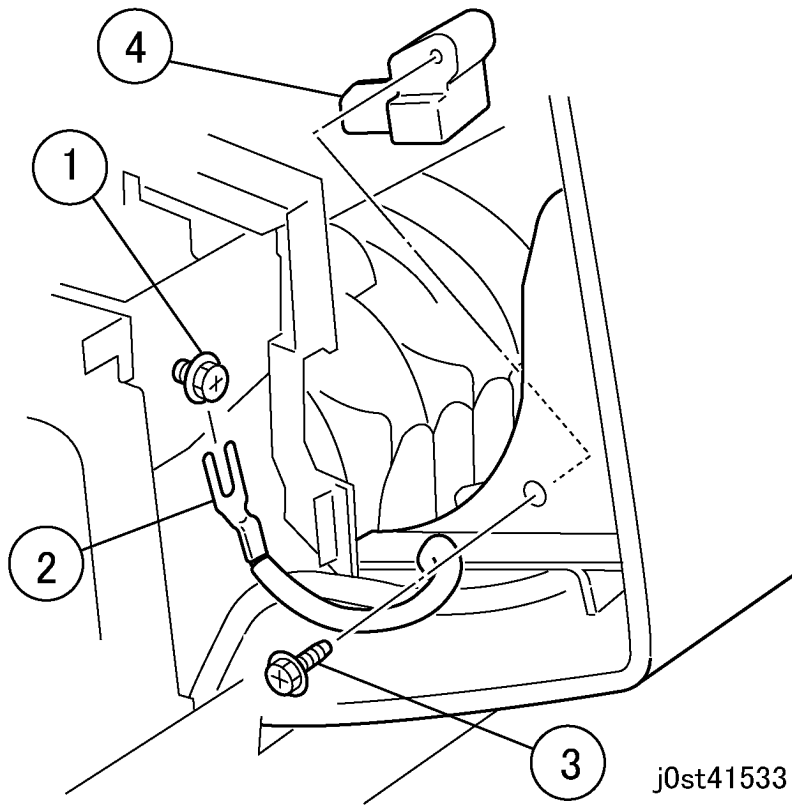

Figure 2 Removing the Harness Guide
4. Remove the Harness Guide. (Figure 2)